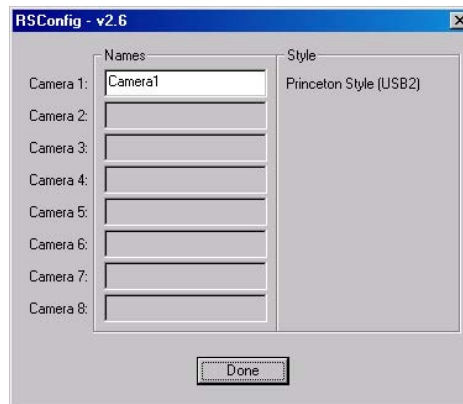

Figure 66. RSConfig dialog box
4. When the RSConfig dialog box (Figure 66) appears, you can change the camera name to one that is more specific or you can keep the default name "Camera1". When you have finished, click on the **Done** button.